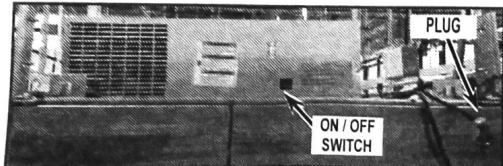

FIGURE 1
2. Locate the ON/OFF switch and toggle the position to OFF. See Figure 1.